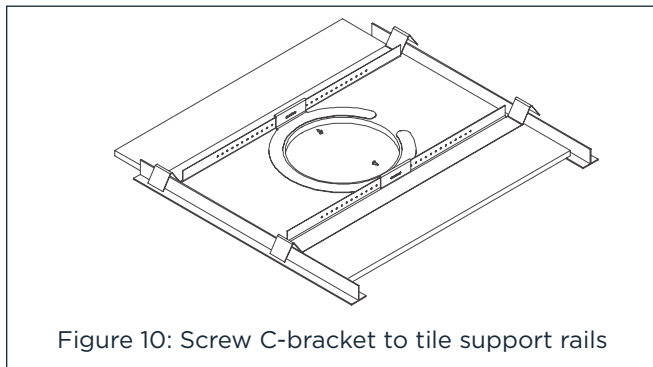

Figure 10: Screw C-bracket to tile support rails
- The included C-bracket and tile support rails should be used in all suspended ceiling installations. The C-bracket and tile support rails can also be used in installations when the speakers are mounted into material that will not support their weight. Insert the two tile support rails and C-bracket through the hole you have cut, placing them as shown. Using the two screws that are supplied, screw the C-bracket to the tile support rails as shown (see Figure 10 and 11). After the C-bracket and tile support rails are installed follow Step 2 through 8 in the previous installation instructions.